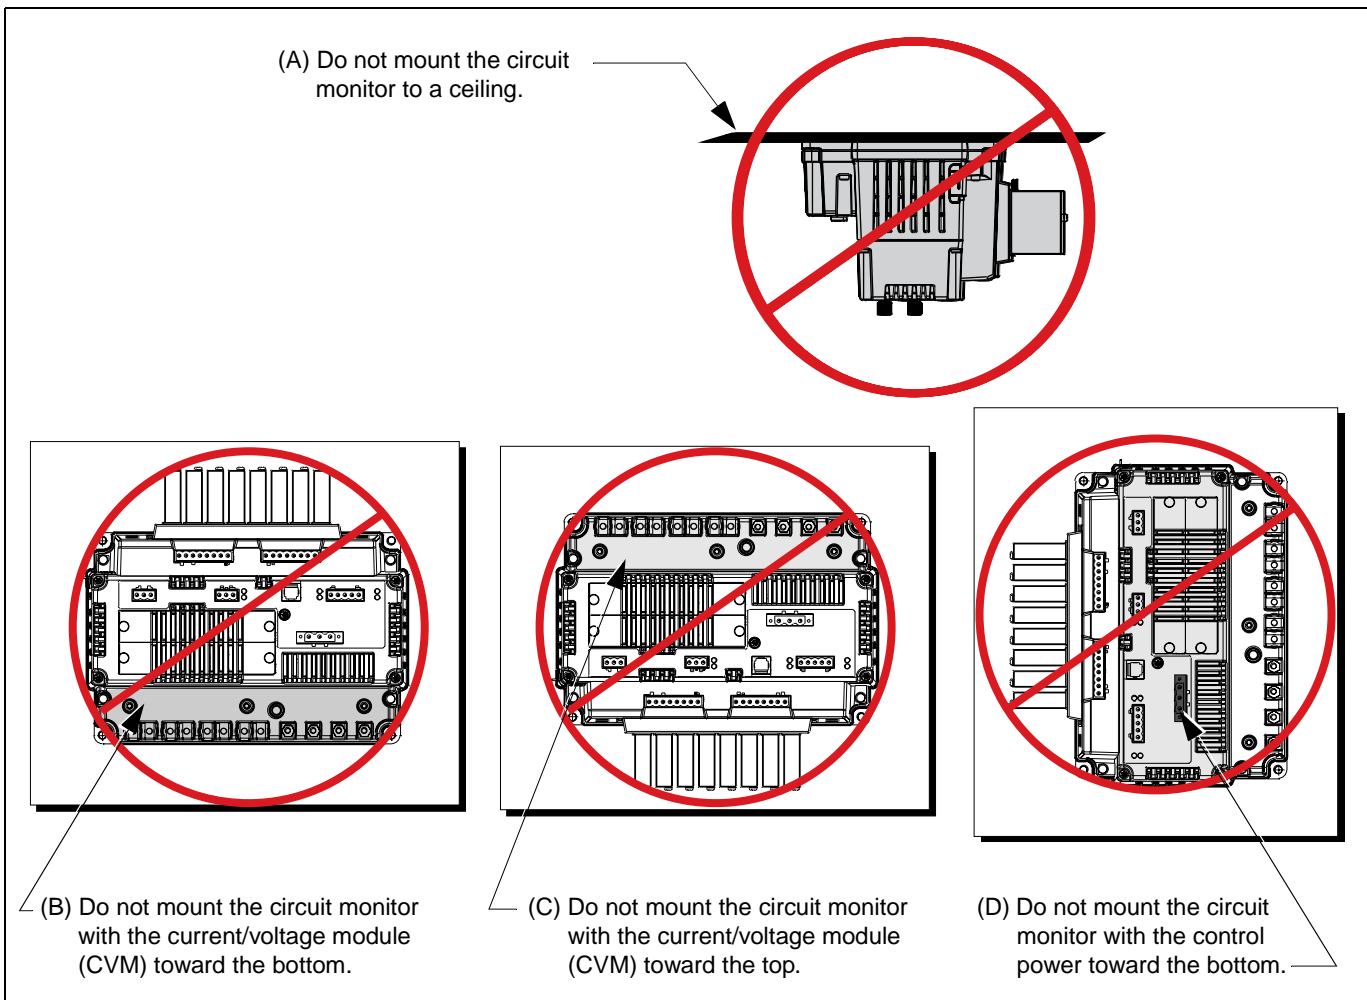

Figure 4-4 Incorrect mounting of the circuit monitor
<ul style="list-style-type: none"> Do not mount the circuit monitor to a ceiling (A) or in vertical orientations shown in Figure 4-4 (B, C and D). Provide the following clearances around the circuit monitor as described in Table 4-2: